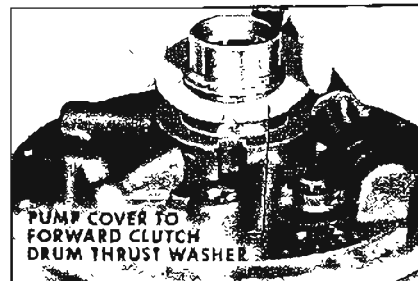

Figure 5-183
2. Remove pump cover to forward clutch drum thrust washer. See Figure 5-183.